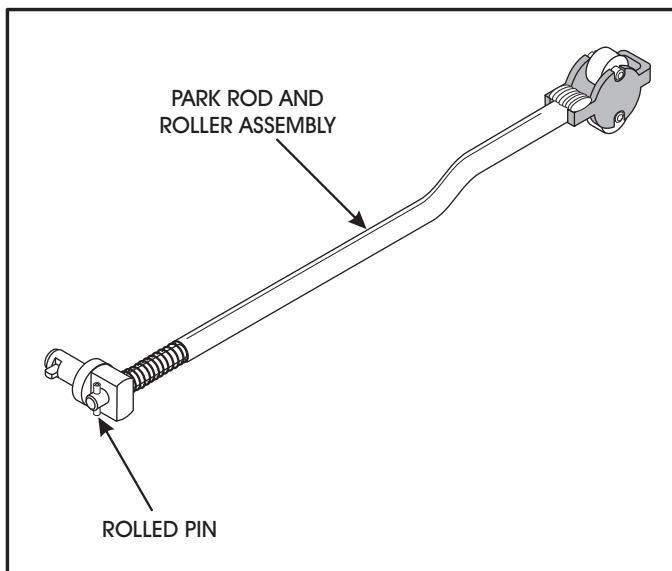

Figure 64
6. Inspect the rolled pin in the park rod and roller assembly *very* closely, as shown in Figure 64, for any damage or bent.